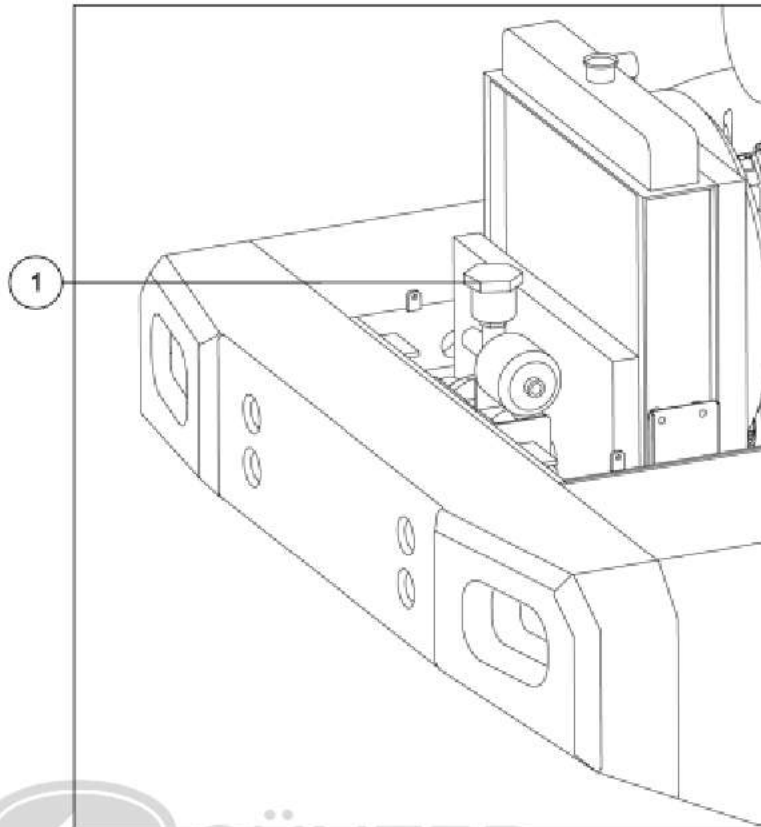

Figure 6-27 Brake fluid tank
Step 2: Open the engine hood and check the brake fluid level.If the brake fluid is lower than 1/3 of the height of the brake fluid tank (1), add the same type of brake fluid.The brake fluid should not be higher than 2/3 of the height of the brake fluid tank, as shown in Figure 6-27;